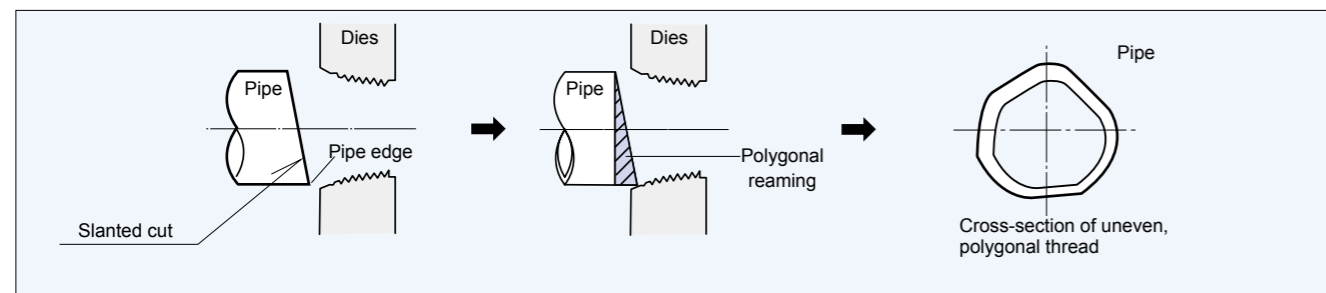

Fig. 3 Principle of polygonal threads
- When a thread is cut on a steel pipe where the end of the pipe is slanted or has steps, the result is a polygonal thread or a pipe of uneven thickness. (Fig. 3)